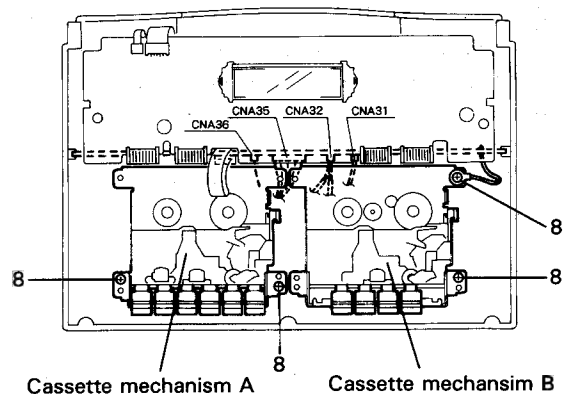

Fig. 7-6
■ Cassette Mechanism Assembly (refer to Fig. 7-6)
1. Remove the four screws (8) retaining the cassette mechanism assembly.